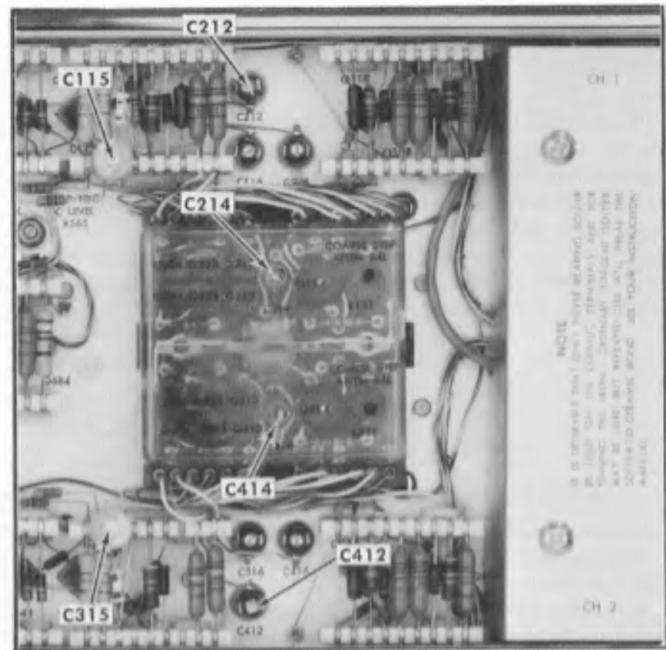

Fig. 6-16. Location of channels 1 and 2 high frequency differential balance adjustments.
- ADJUST—C115, see Fig. 6-16 for minimum display amplitude; then adjust C214 for minimum display amplitude. Alternately repeat the adjustments in this part until the smallest possible display amplitude is obtained. Reduce the sine-wave signal frequency to 1 kHz before proceeding to part i of this step.
- ADJUST—C315 (see Fig. 6-16), for minimum display amplitude; then adjust C414, for minimum display amplitude. Alternately repeat the adjustments in this part until the smallest possible display amplitude is obtained. Reduce the sine-wave signal frequency to 1 kHz before proceeding to part h of this step.